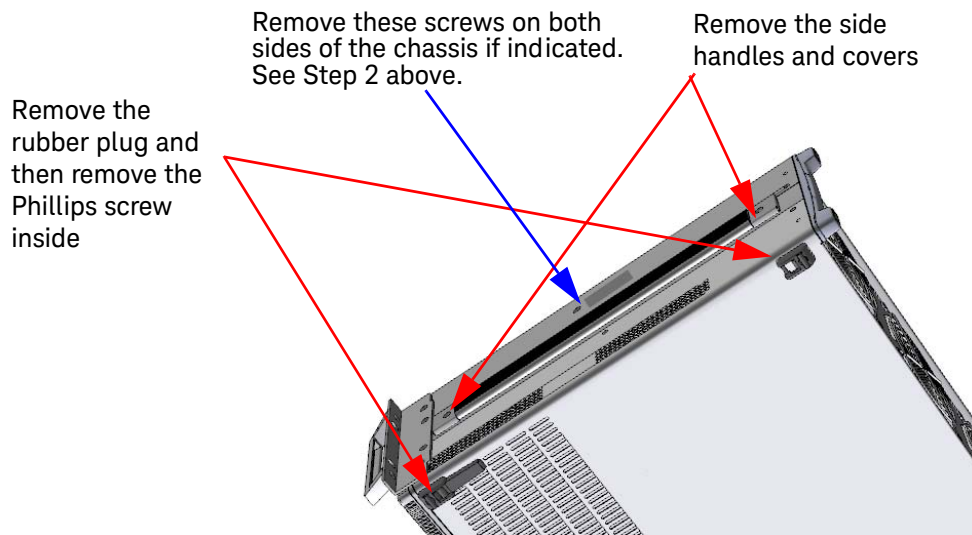

Figure 1 Removing the Chassis Feet
- 2 Refer to Figure 1 below. Remove the side handles and handle covers from both sides of the M9018A PXIe chassis.
- 3 On M9018A chassis with serial number TW54XXXXX and later, two additional screws must be removed (one on each side of the chassis). Refer to Figure 1. Note that earlier chassis did not have these screws.
- 4 Remove the four chassis feet by pulling out the small rubber insert on each foot and then removing the Phillips screw that attaches the foot to the chassis. See Figure 1.